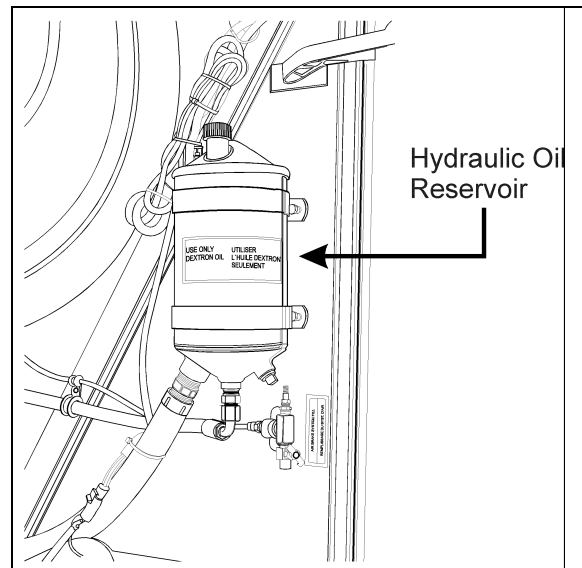

FIGURE 21: HYDRAULIC FLUID RESERVOIR LOCATION
The power steering reservoir is located on R.H. side of engine compartment, on front wall and accessible through the engine compartment R.H. side door. (Figure 21).
3. Insert dipstick in reservoir. Remove it again to check fluid level (Figure 21).